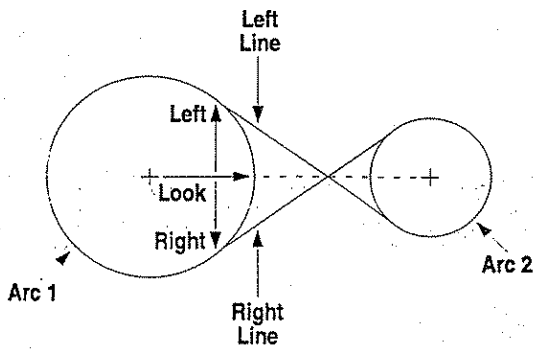
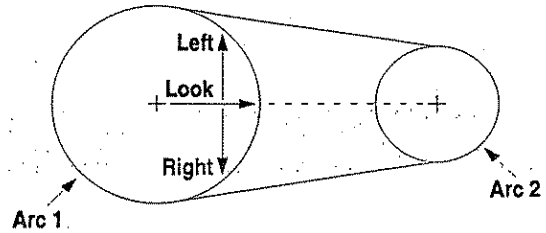

Figure B-3
Figure B-4
The two lines which intersect between the two arcs are described as one set of lines (Figure B-3), and the two lines which do not intersect between the arcs are described as a different set of lines (Figure B-4).
Each set of two lines, (intersecting and non-intersecting) has a line on the left and a line on the right. These are determined by looking from the center of the first arc to the center of the second arc. See Figures B-3 and B-4.
- Select XSECTNS** This selects the set of intersecting lines or non-intersecting lines. See Figures B-3 and B-4.